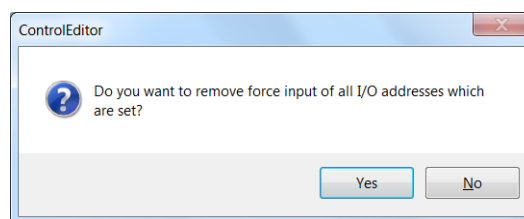

Fig. 6.4.4 Message dialog for removing all force input
- Clear all:** Message dialog for removing force input of all I/O address registered in the list is displayed (Fig. 6.4.4). When clicking [Yes] with the mouse, the setting is removed and the display of the I/O address is cleared from the list.